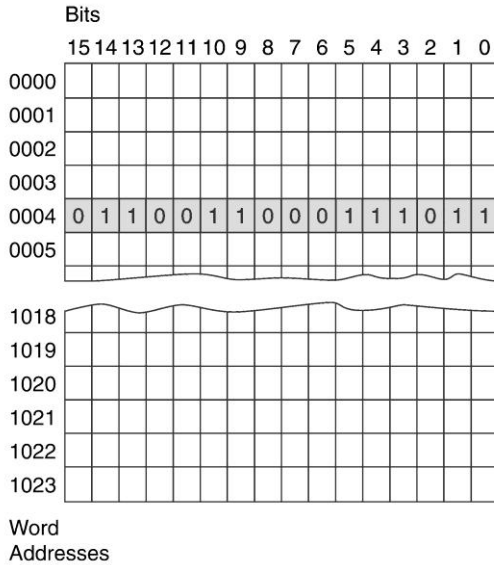

Figure 3-2 Memory size for question 16.
16. Figure 3-2 represents a memory size of 16. _____